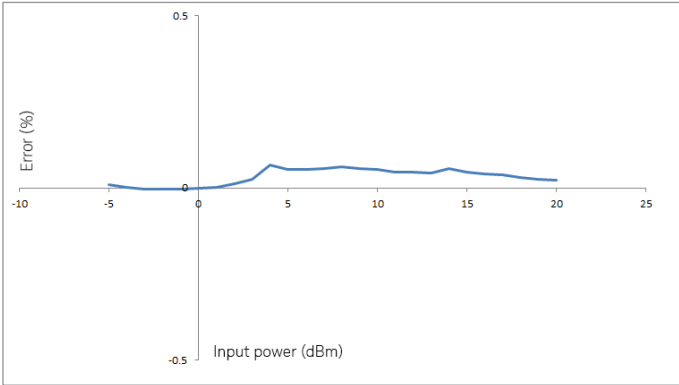

Figure 1. Typical U8480 Series power linearity at 25 °C with measurement uncertainty of ± 0.21%
- 1. After zeroing and calibration at room temperature. Power Linearity is negligible below -1 dBm. Linearity specifications do not include zero set, zero noise or measurement noise that dominantly contribute to the measurement uncertainty at the power levels within 10 dB of the lowest measurable power. Typical performance is given in Figure 1.